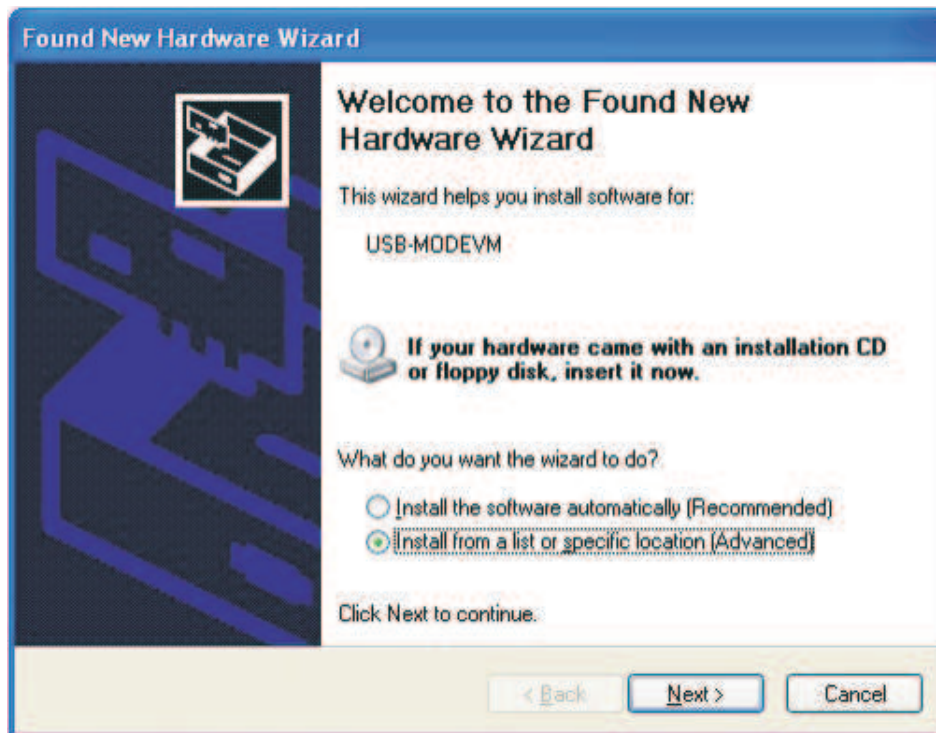

Figure 2. Found New Hardware Wizard Advisory Screen
10. If this is the first time a TPA2016D2EVM is plugged in after installing the software, follow the Windows dialog (Figure 2), questions, and selections: